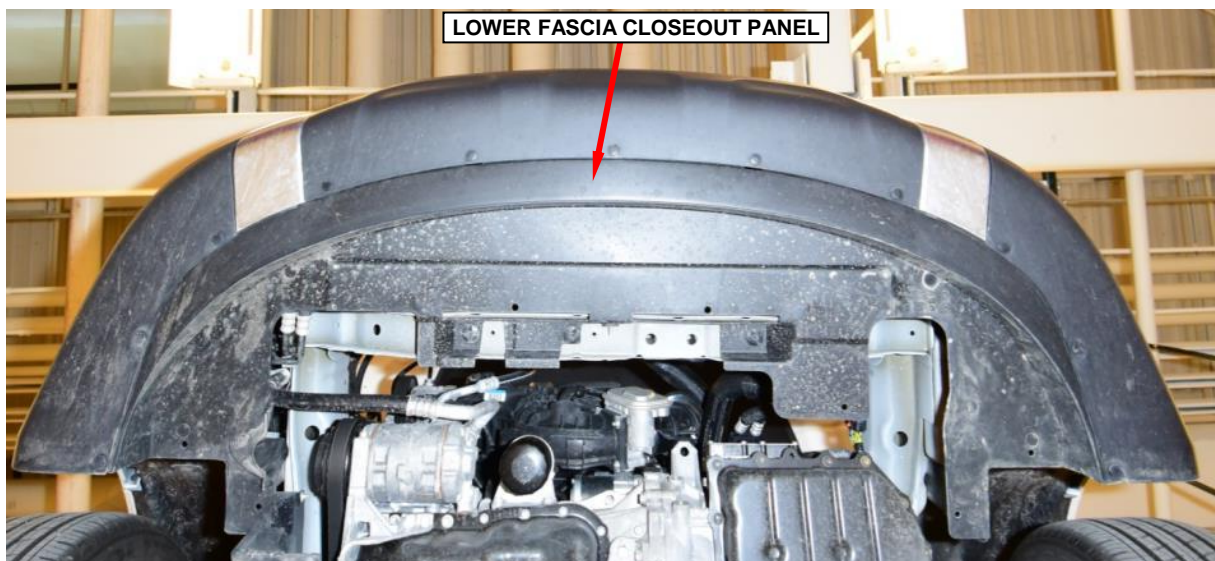

Figure 69 – Lower Fascia Closeout Panel
19. Remove and save the push pins securing the lower fascia closeout panel to the vehicle (Figure 69).
20. Remove and save the lower fascia closeout panel (Figure 69).